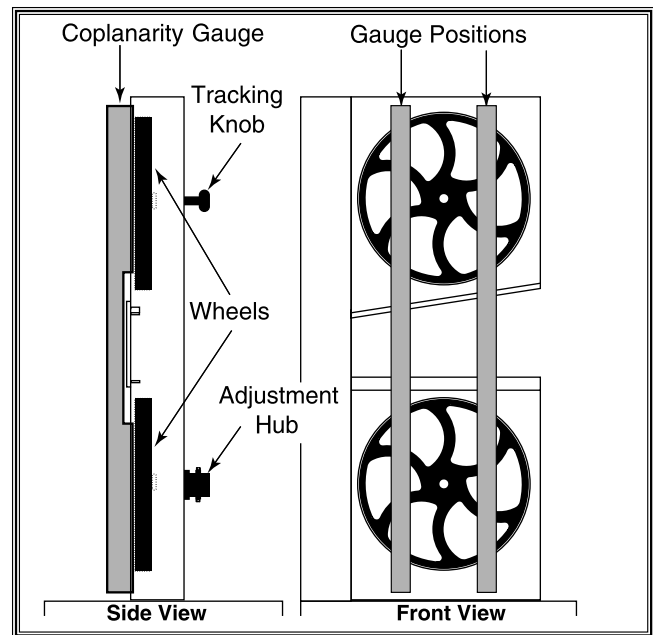

Figure 14. Checking for coplanarity.
When you use the Coplanarity Gauge, the gauge must contact the top and bottom of both wheels all at the same time for the wheels to be coplanar (parallel and aligned). See **Figure 14**.
5. Place your gauge up against both wheels in the positions shown in **Figure 14** and determine if an alignment problem exists. The gauge must be flat against both wheels in both left and right positions. See **Figure 20** for assistance.